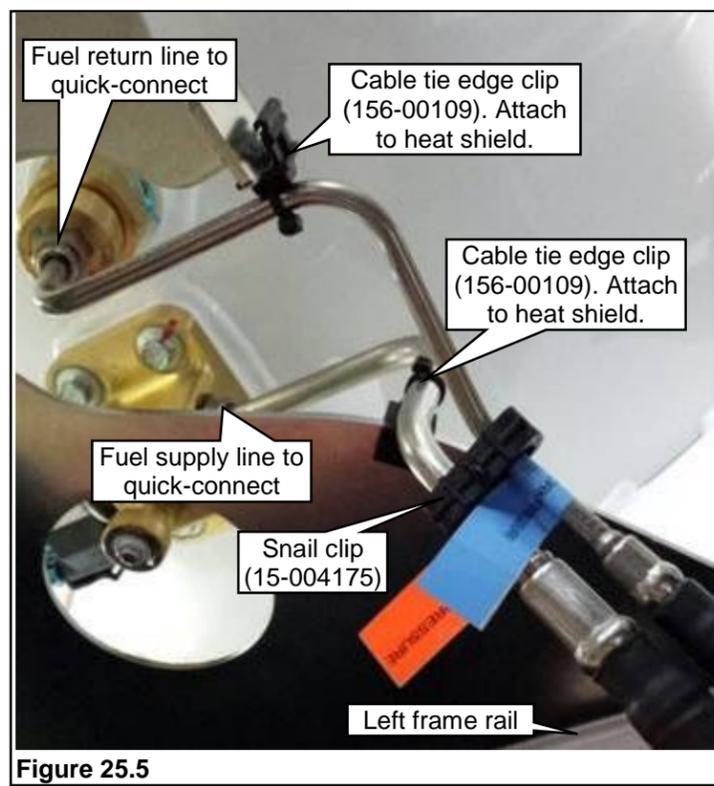

Figure 25.5
5. Attach two cable tie edge clips to the fuel line opening of the heat shield. Connect the rear fuel supply line into the fuel supply valve quick-connect fitting and the fuel return line into the tank return check valve quick-connect fitting at the bottom of the tank. Trim the cable ties. **Figure 25.5**.